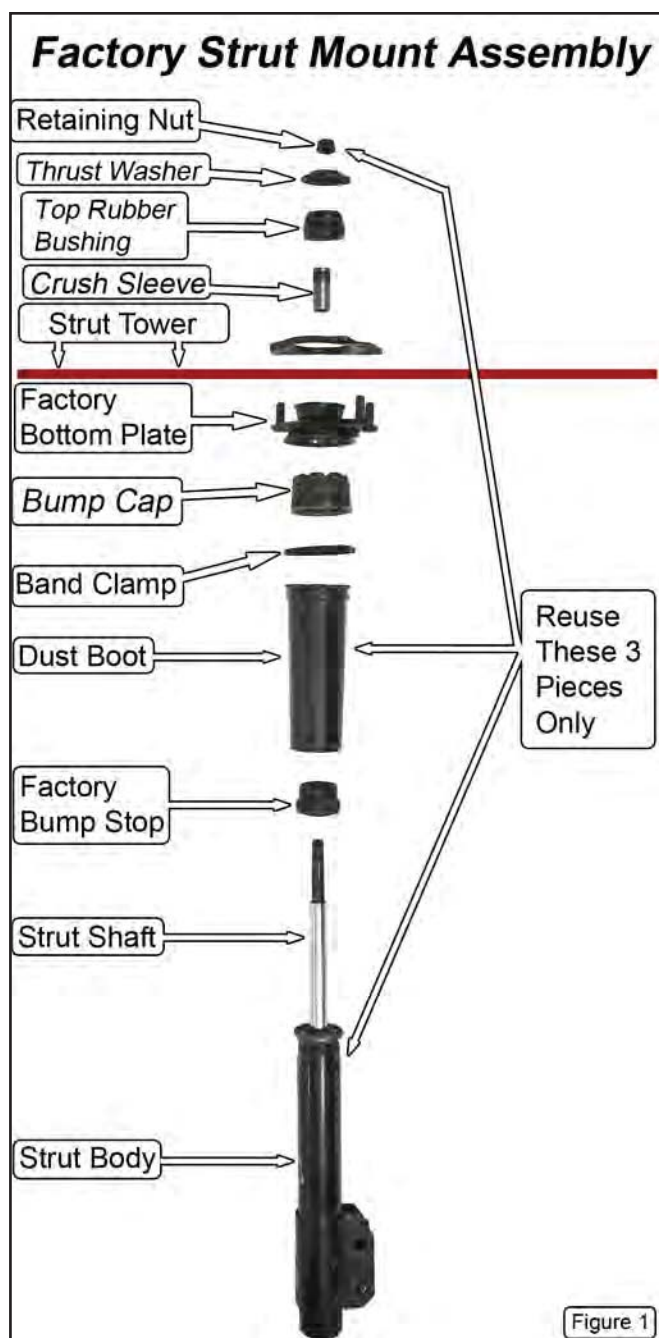

Figure 1
(Figure 1)
9. Collapse the strut shaft down into the strut body far enough to remove the factory bottom plate and dust boot assembly. Discard the factory bottom plate. Save the dust boot. **(Figure 1)**
10. Remove and discard the OEM bumpstop from the strut shaft. **(Figure 1)**
11. Cut and remove the metal band clamp securing the plastic dust boot to the bump cap. Separate the dust boot from the bump cap. Discard the bump cap, but save the dust boot. **(Figure 1)**